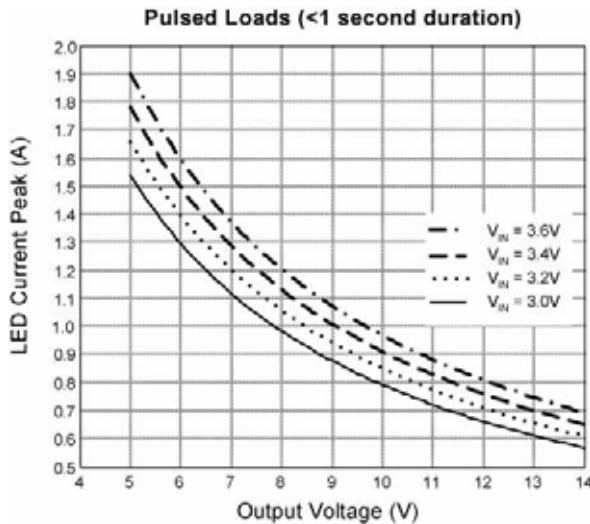

Figure 8. Peak Output Current vs. V_{OUT}
The SOA (safe operating area) of the MIC2299 is shown in the typical characteristics section. This graph represents the maximum continuous output power capability of the part when used on a minimal evaluation board layout. This is a 2 layer board of 1 ounce copper, utilizing the bottom layer as a ground plane heat sink. The total area of the GND copper is approximately 1.3 square inches. This approaches a thermal resistance of 45°C/W. An alternative layout with more copper area for heat sinking will increase the area under the SOA curve. Note that the SOA is for continuous power and not peak power and is effectively a thermal limitation. The SOA is true for a time constant of approximately >1 seconds. Therefore, any load transient with a period of < 3s can exceed the SOA curve power up to a maximum limited by the current limit of the MIC2299. Figure 8 shows the theoretical output current limit of the MIC2299 using the Evaluation Board inductor value of 2.2µH with a DCR 50mΩ.
- The time constant of the driver is <3 seconds, so we can look at the peak current capability of the driver in Figure 8.
- Looking at Figure 8, the MIC2299 can achieve more than the required 800mA peak current at 8.4V